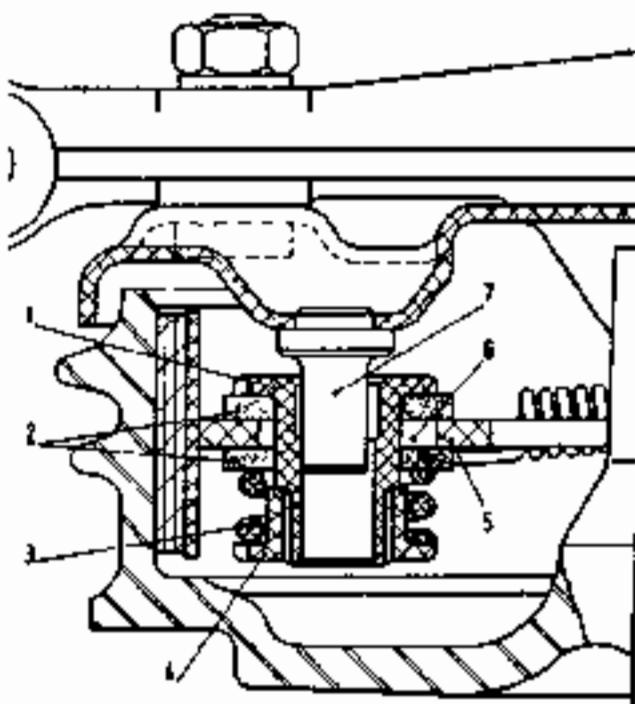

Fig. 7.8. Section view of the self adjuster
9. Take out the plunger, and the piston with all rubber rings, washers, and springs. See Fig. 7.8. Note the order and way round in which they were in the cylinder. To get them out it may be necessary to push with a long thin and clean screwdriver through the hole where the brake light switch was.